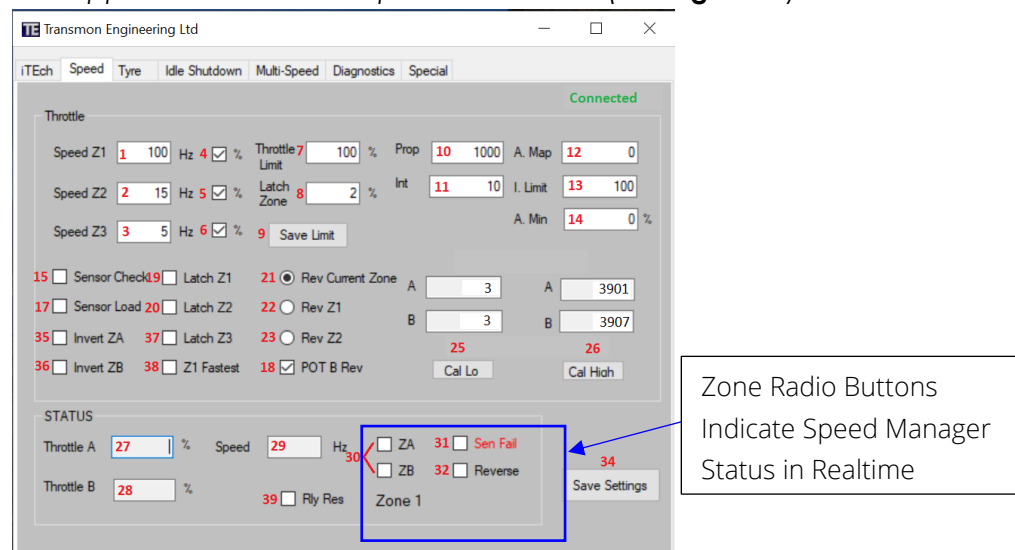

Figure 18: Speed Manager Interface Realtime Zone Status Indication
- Use Speed Manager Interface application to monitor Speed Zone status (see **Figure 18**)